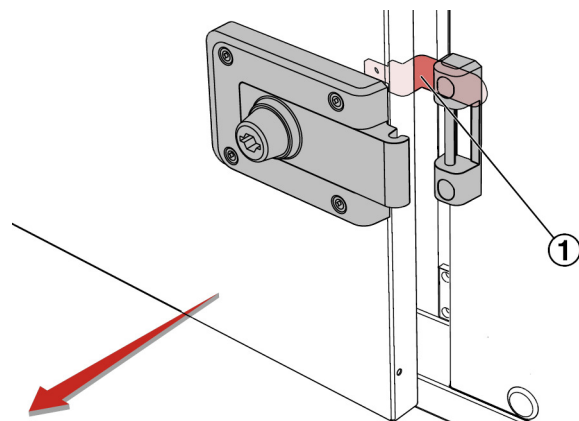

Fig. 51: Safety catch
- ▶ Carefully open the inspection access door until it is caught by the safety catch (Fig. 51 /1).